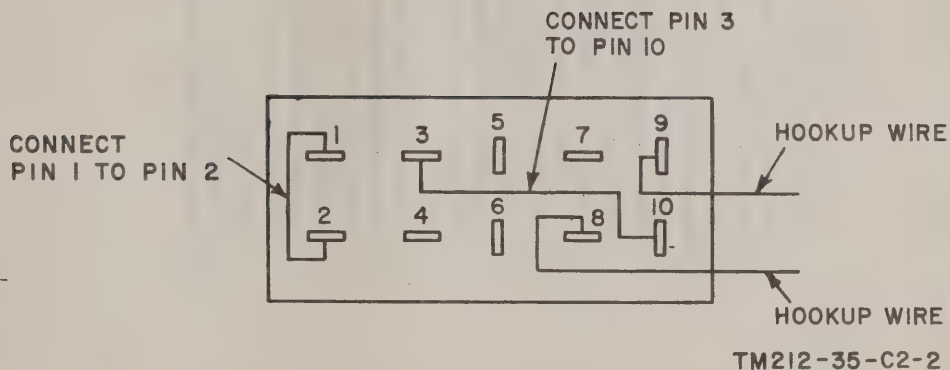

Figure 48.2. (Added) Transmitter special purpose test cable.
g. To perform the tests on the transmitter, fabricate a special purpose test cable as illustrated in figure 48.2.